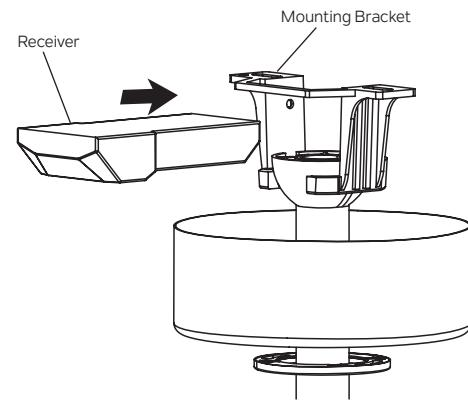

Fig. 15
**Step 1.** Insert the receiver into the mounting bracket, with the flat side facing up toward the ceiling. (Fig. 15)